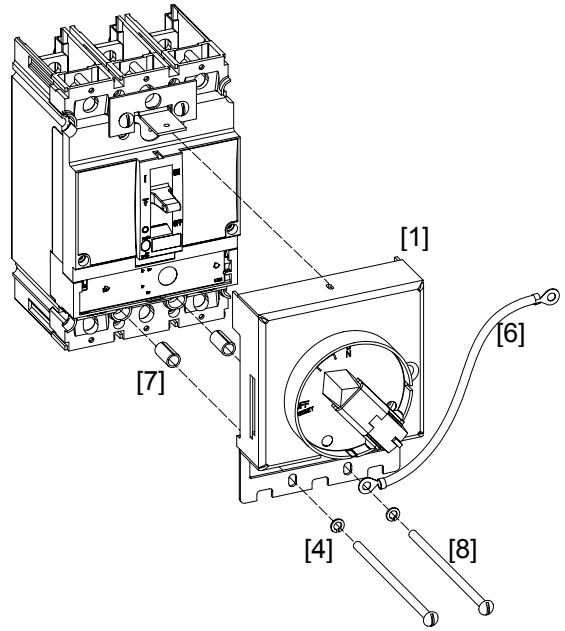

Figure 5. Mounting the handle operator on the breaker.
3. Turn the rotary handle in the handle operator assembly [1] to the TRIP position. Mount the operator assembly to the breaker with a grounding cable [6], two 41/64" spacers [7], two #10-32 x 4" screws [8] and two lock washers [4], as shown in Figure 5. Tighten the screws to 27 - 32 in-lb.